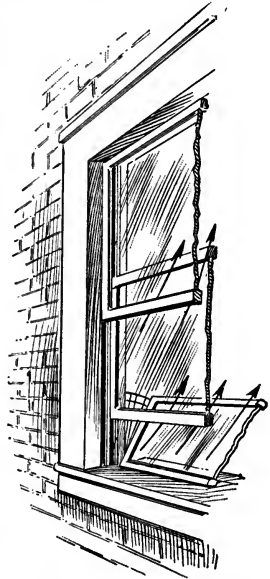

FIG. 29. — An improved window board to allow ventilation without draft.
2. Avoid drafts in ventilation. Ventilate by lowering windows from the top rather than by raising them at the bottom, unless a window board is used to break the force of the incoming air (Fig. 29).